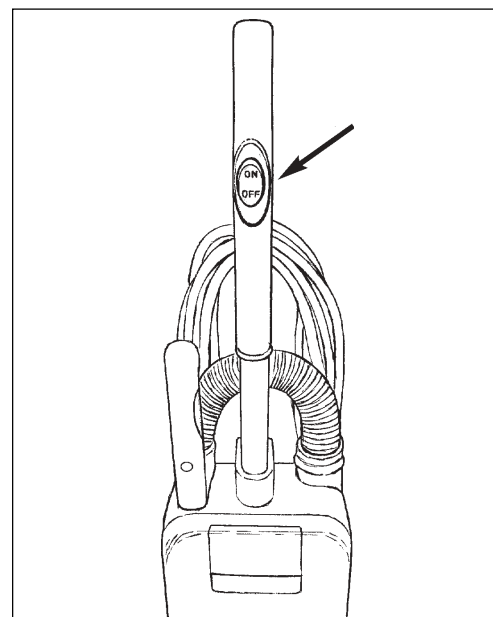

Figure 9
### **The ON/OFF Switch** (See figure 9)
3. Put the ON/OFF switch in the "I" position (see figure 9).